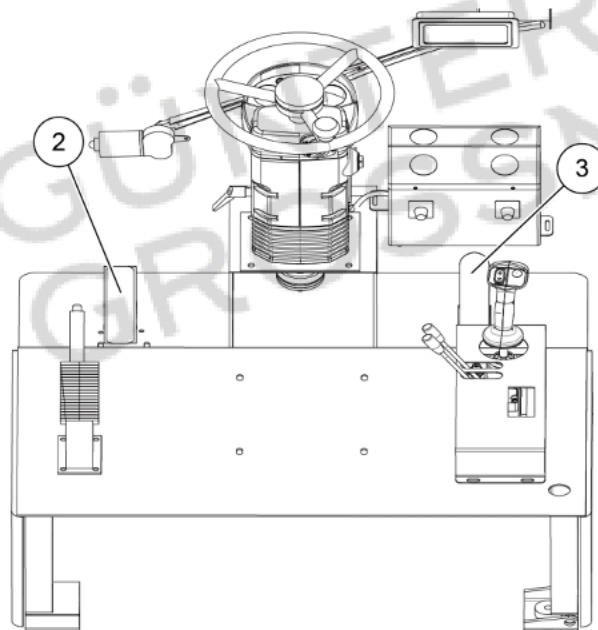

Figure 5-32 Cab
Step 2: Release the accelerator pedal (3), depress the brake pedal (2), and put the travel control switch (4) in the middle position, as shown in Figure 5-32 and 5-33;